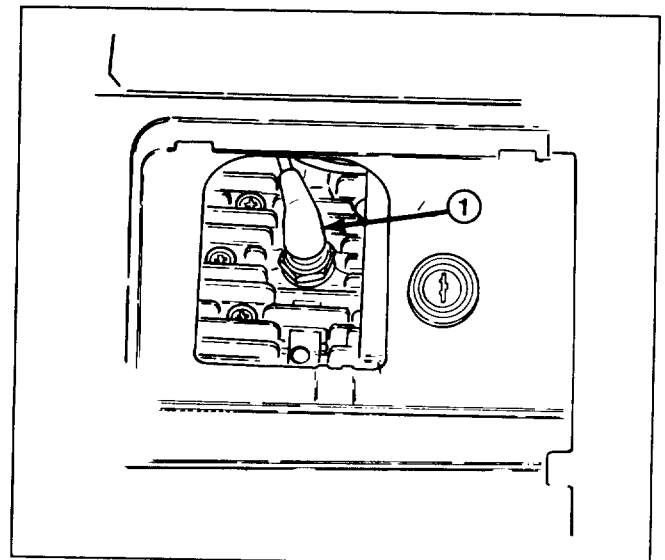

Figure 15
2. **REMOVE SPARK PLUG** (Fig. 15) – Pull wire off spark plug and remove plug. Examine the plug and replace if cracked, fouled, or dirty. **DO NOT SAND-BLAST, SCRAPE, OR CLEAN SPARK PLUG BECAUSE DIRT MAY RELEASE AND FALL INTO CYLINDER CAUSING ENGINE DAMAGE.**